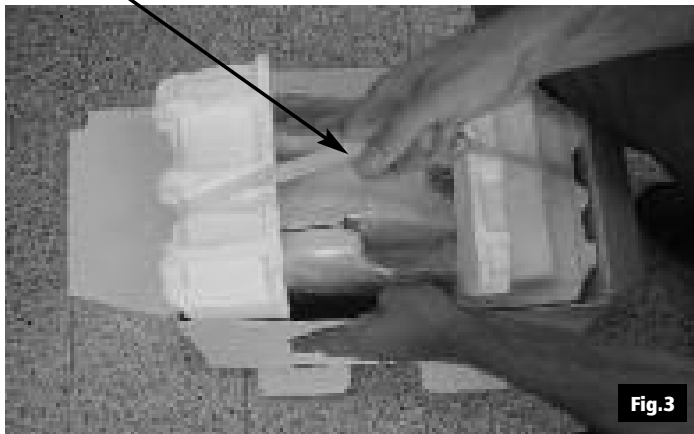

Fig.3
2. Holding the packaging down with one hand, lift the Vision X together with the packing materials making use of the plastic handle (Fig.3).